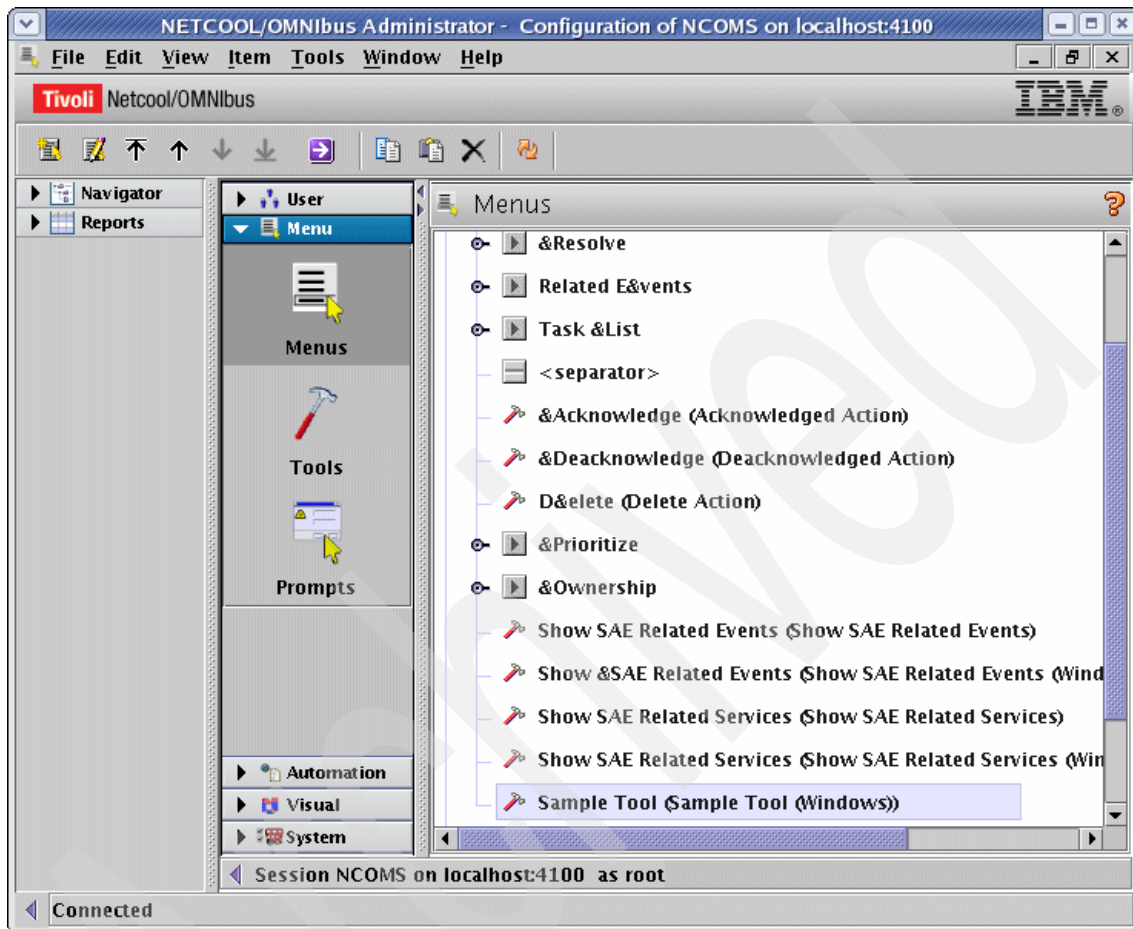

Figure 4-32 Administrator console Menu tab
3. Check that the new item has been created in the administrator console, as shown in Figure 4-32.